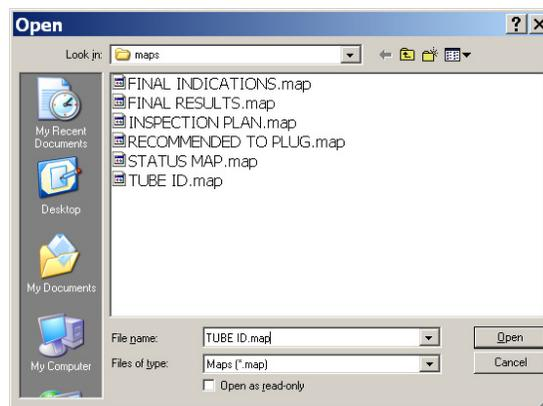

Figure 5. File | Open Map Dialog
- File | Open Map** (Ctrl+O) displays the **Open** dialog shown in Figure 5. Simply select the desired *map* file from those listed in the **[project] \maps** directory and click the **Open** button. Alternatively, you can double-click a file. DBMS loads and displays the selected *map* in the working area of the main window. Information saved with the *map* will fill in the **Legend**, **Inspection Display** area, **Map Header** dialog, and **Tube Count Display**.